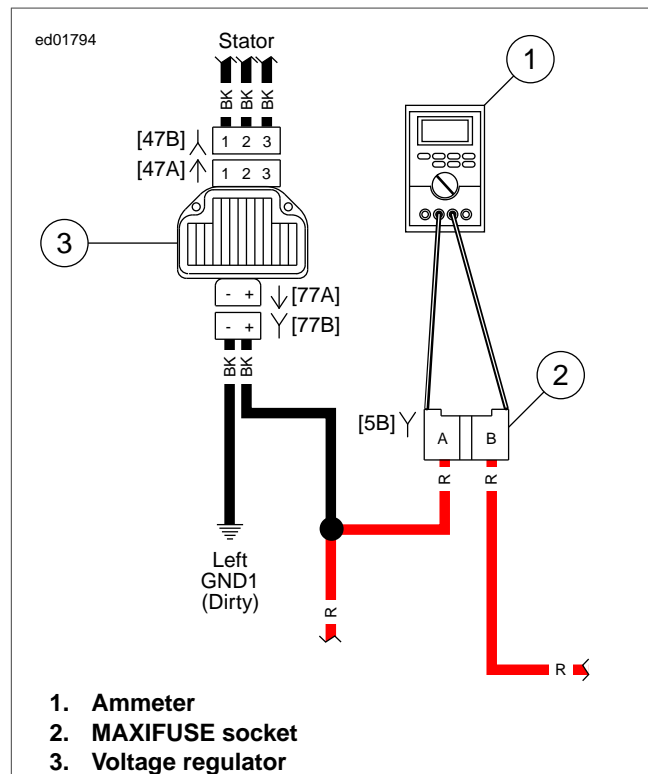

Figure 1-20. Milliampere Draw Test (Ignition Turned to OFF)
- See Figure 1-20. Using HARNESS CONNECTOR TEST KIT (Part No. HD-41404-B) red male socket probes and patch cords, connect ammeter to MAXIFUSE socket terminals. With this arrangement, regulator drain is also picked up.